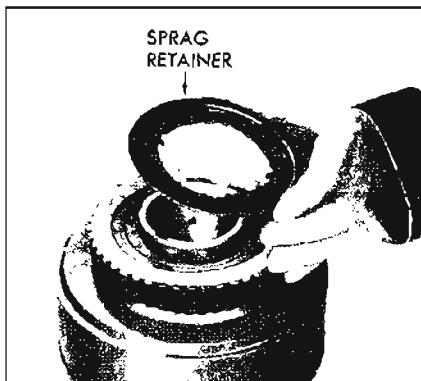

Figure 5-643
14. Install sprag retainer over sprag, cup side down. See Figure 5-643.